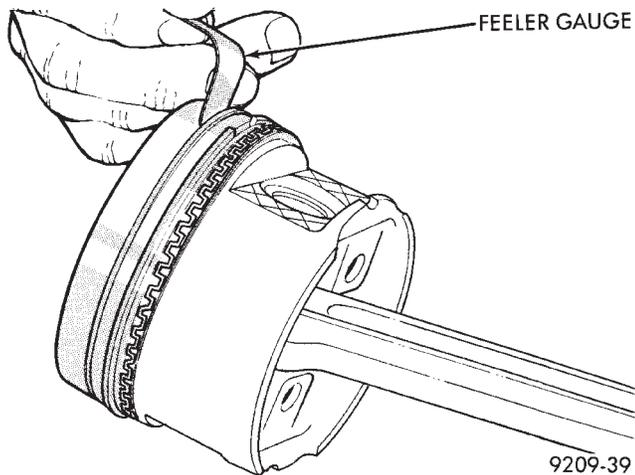

Fig. 15 Piston Ring Groove Clearance
(2) Check piston ring to groove clearance: (Fig. 15). Refer to specification (Fig. 17).